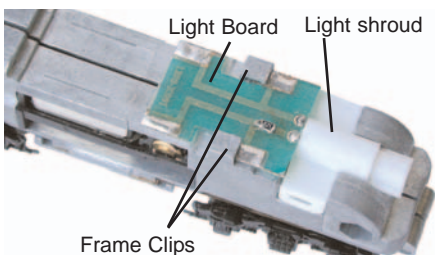

Figure 2: Remove plastic light shroud, slide board forward to remove board
2. Carefully remove the plastic light shroud by gently prying up the tabs on either side of the frame and lifting the plastic piece off the frame. **Figure 2.**
3. Slide the factory light board forward to release it from under the clips on the locomotive frame. Be careful not to distort the frame clips as you slide and lift the light board off the frame. **Figure 2.**